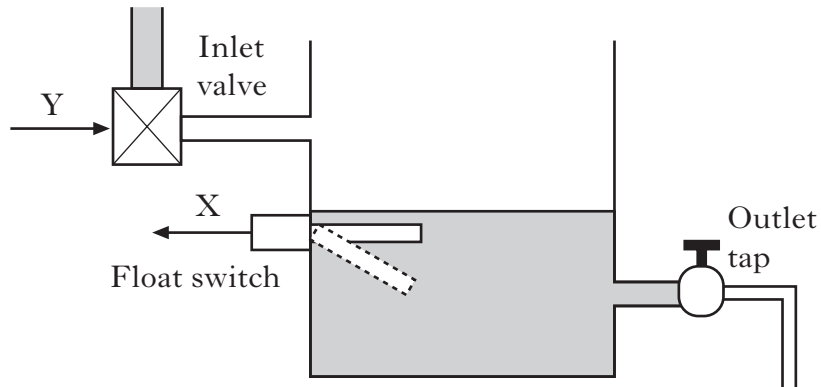

Figure Q6
6. Figure Q6 illustrates a tank in which the level of water is controlled using a microcontroller. When the water level falls below the float switch, the water level will be raised by opening the inlet valve.
Sketch a flowchart to describe how the system will respond to the opening of the outlet tap. Assume the water level is initially as shown in Figure Q6.